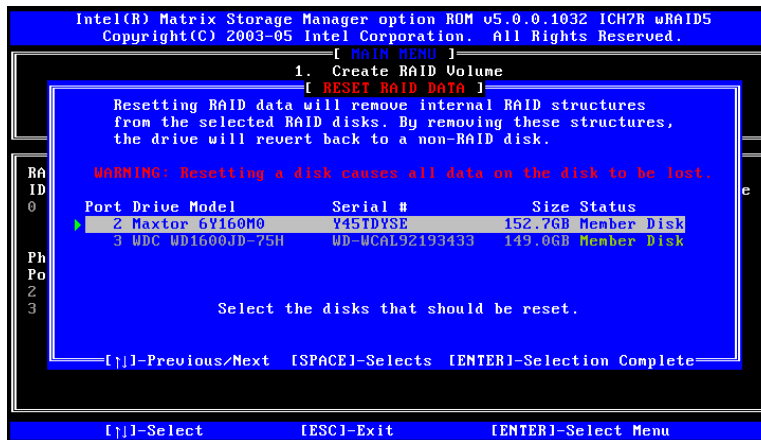

Figure D-13: Select Disk to Reset
**Step 2:** Select Disks to Reset. Use the arrow keys to scroll through the disk drives and press **SPACE** to select which drives are to be reset as non-RAID. After all the disks to be reset have been chosen, press **ENTER**. See Figure D-13.